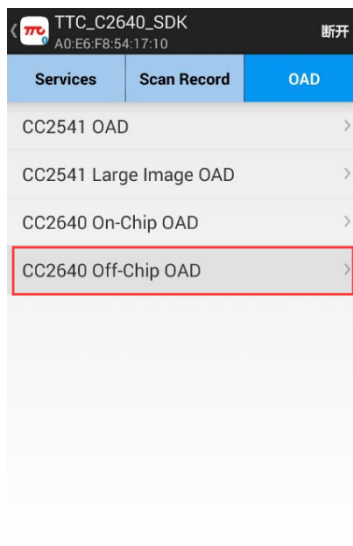

Figure 2-5-10 OAD type
- (6) Select the OAD type "CC2640 Off-Chip OAD", as shown in Figure 2-5-10;